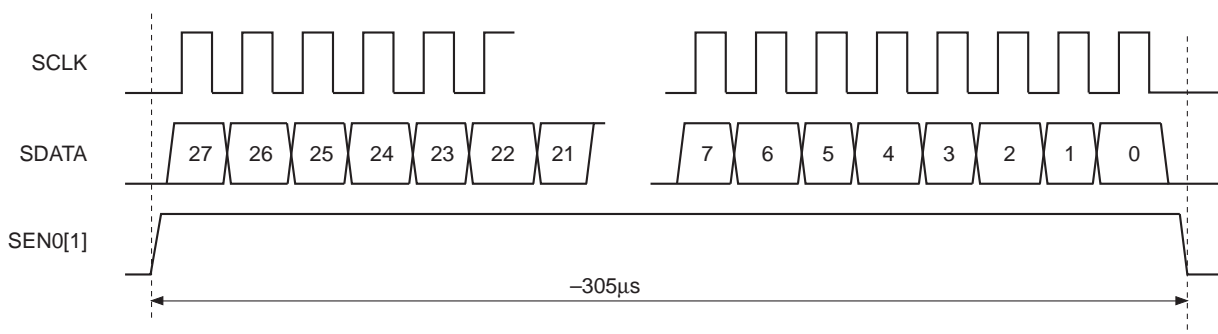

Fig. 7. 3-Wire Bus : Mode 1 Operation
- Mode 1** :The CPU loads 4 I²C bus registers inside the TCM demodulator with 28 bits of data. The CPU selects which SEN0 or SEN1 output should be used by programming the I²C bus register bit (SEL), and then commands (by setting an I²C bus register bit SEND) the 3-wire bus state machine to transmit these 28 bits out of the 3-wire interface as shown in Fig. 7. When the transmission is complete, the I²C bus register bit (SEND) is reset to zero by the 3-wire bus state machine. This allows the CPU to poll the SEND bit to determine when it is able to write further data to the 3 I²C bus registers if it is necessary to send more data. The rate of transmission is fixed at 10.67μs per bit when using a 30MHz crystal oscillator on the CXD1958Q demodulator IC. The bit ordering of transmission starts with bit 27.